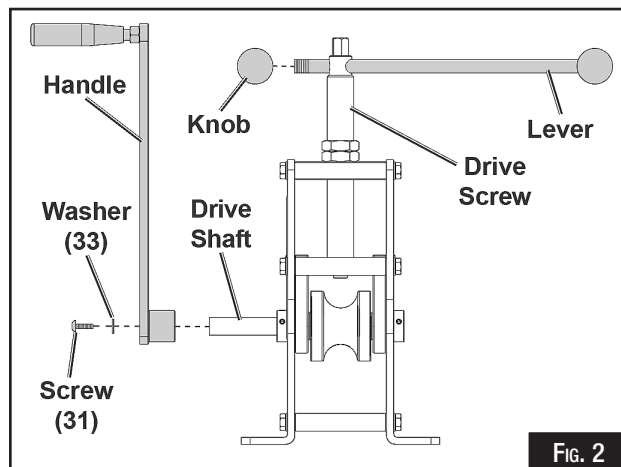

FIG. 2
1. Attach Handle to Drive Shaft with Screw (31) with Washer (33), then tighten the Screw.
2. Remove a Knob from the Lever. Insert the lever into the drive Screw. Re-attach the knob to the end of Lever. (Fig. 2)